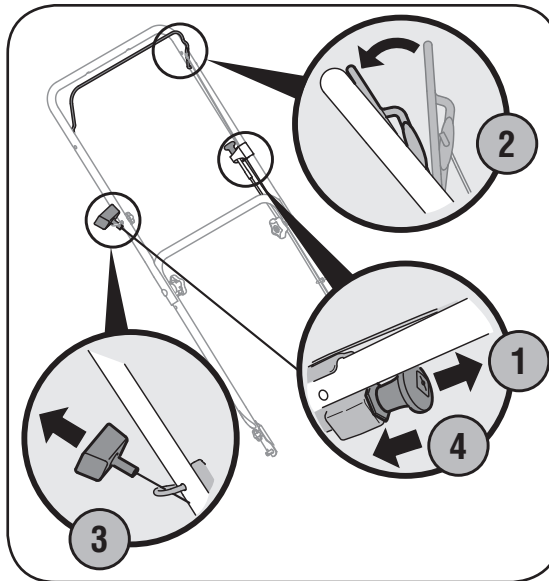

Figure 4-2
1. Pull out the choke knob located on the left side of the upper handle, Figure 4-2.
2. Standing behind the mower, squeeze and hold the blade control against upper handle, Figure 4-2.
4. As the engine warms, slowly push in the choke knob. See Figure 4-2.